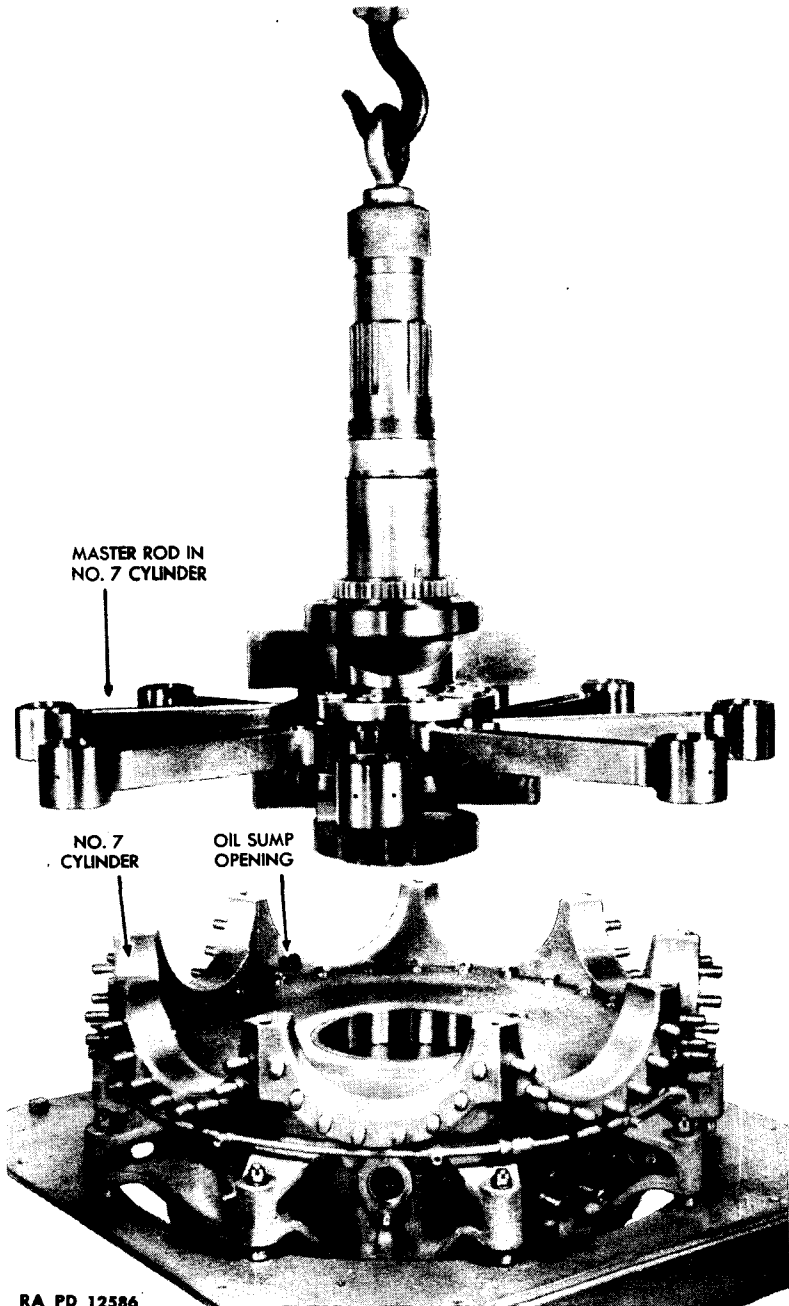

Figure 26—Lifting the Crankshaft out of the Crankcase Rear Center Section
(1) Turn crankcase mounting stand over until crankcase is again horizontal, with spline end of crankshaft up.
(2) Using a 9/16-inch socket wrench, remove the nuts from the crankcase assembly bolts that hold the front and rear center section of the crankcase together. Tap up with the brass hammer on all the bolts to give sufficient clearance to attach the crankcase bolt remover GU-GST-1338.
(3) Attach the remover to the bolt head and remove the bolts by striking the sliding hammer of the tool forcibly back.
(4) Lift off the crankcase front center section evenly, until it clears the crankshaft. It may be necessary to tap up on the crankcase with a soft hammer to free it.
(5) Remove the safety wire from the intermediate gear cap screws, and, using a 7/16-inch socket wrench, remove the six cap screws and the bolt. Remove intermediate gear and spindle from crankcase.
55. REMOVE THE CRANKSHAFT ASSEMBLY (fig. 26).